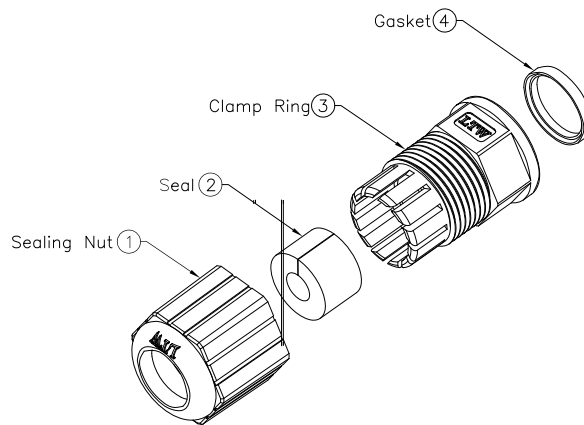

Figure 1.3: IP65 RJ-45 Connector
The connector casing is delivered assembled, unscrew the connector as shown in figure 1.3 (you do not need to remove the gasket (4)).